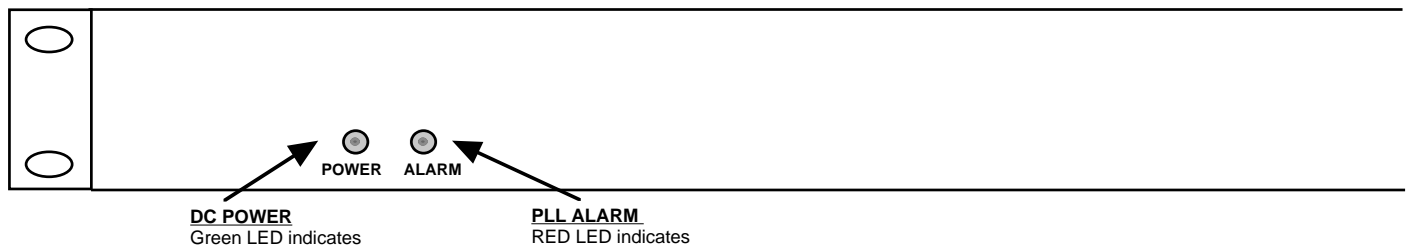

FIGURE 2.2 2083-2215 Front Panel Indicators
Figure 2.2 shows the front panel indicators.
7. Be sure DS6 (green, DC Power) is on and DS2 (red, Alarm) is off (Figure 2.2).